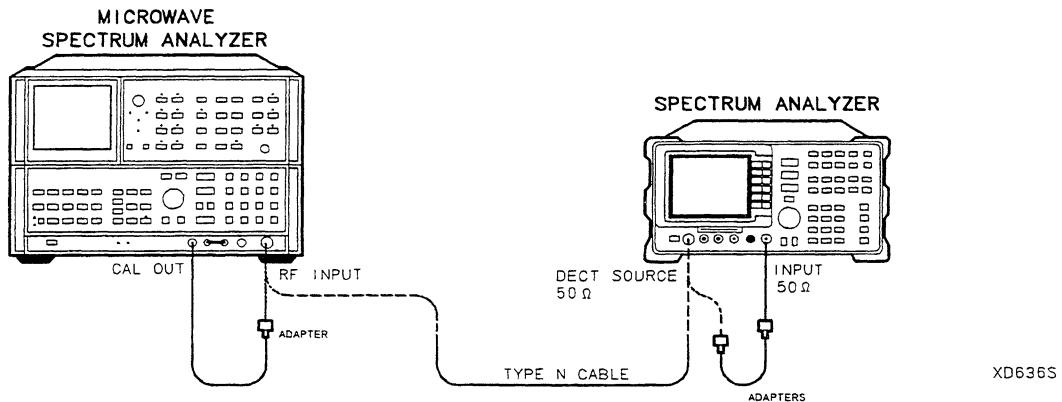

Figure 9-7. LO Feedthrough Amplitude Test Setup
2. Connect the 23 cm BNC cable between the DECT SOURCE $50\ \Omega$ and INPUT $50\ \Omega$ connectors on the spectrum analyzer, using the N(m) to BNC(f) adapters. Refer to Figure 9-7.
6. Connect the Type N cable from the DECT SOURCE 50Ω output to the microwave spectrum analyzer RF INPUT. Refer to Figure 9-7.